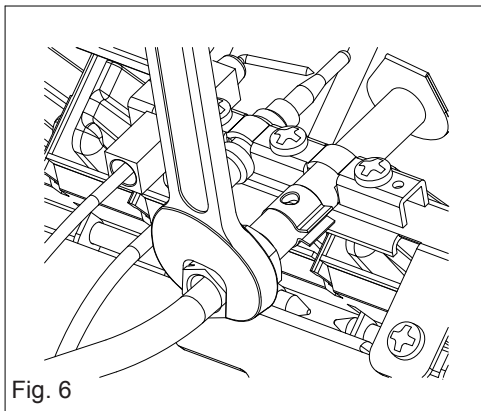

Fig. 6
- Disconnect the pilot flame tube (fig. 6)